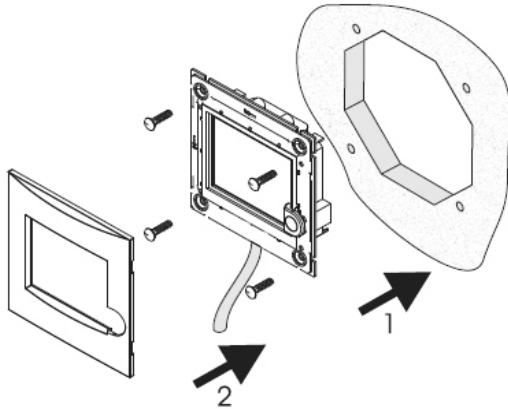
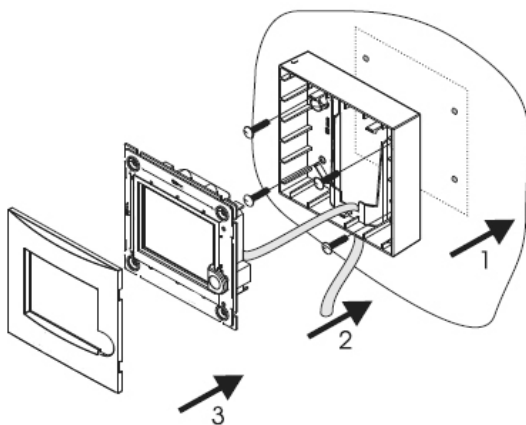

Figure 17
Figure 18
- Flush mounting (see figure 17):
- Mount the MasterView Easy onto the panel (1) and then reattach the front (2).
- Panel mounting (see figure 18):
- Drill the holes using the dimensions at the back of the front plate and fasten the outer housing (1).
- Click the panel into the outer housing (2).
- Reattach the front (3).